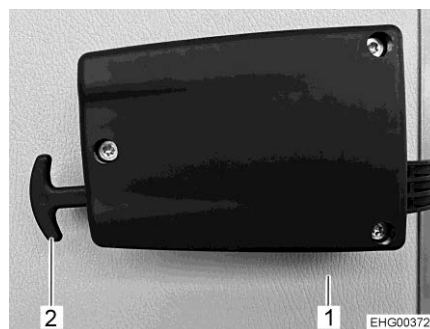

Fig. 61 Garage flap emergency release
- Pull both handles of the emergency release (Fig. 61,2).
- Push the garage flap (Fig. 61,1) outwards.